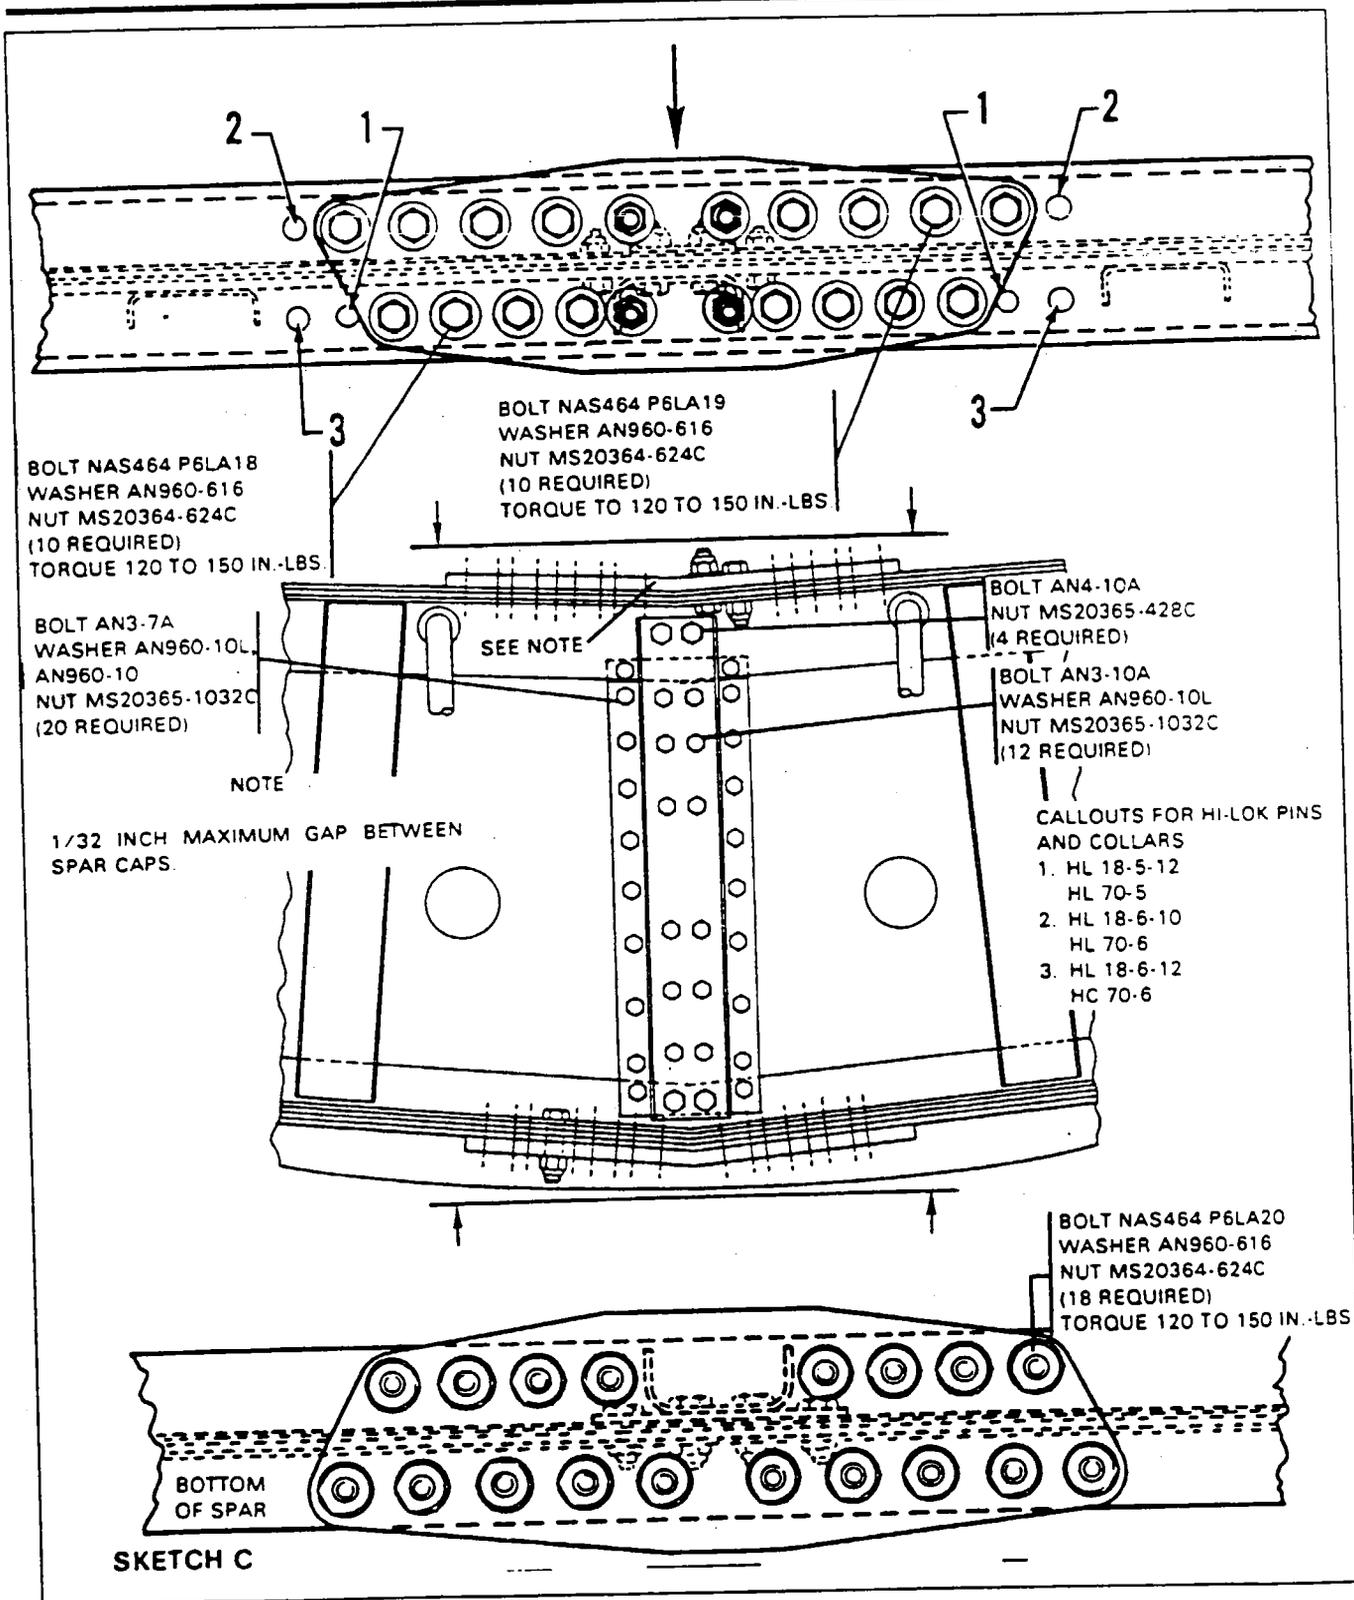

Figure 57-1. Wing Installation (cont.)
#### **REMOVAL OF WING. (Refer to Figure 57-1.)**
**INSTALLATION OF WING.** (Refer to Figure 57-1.)
12. Tighten bolts of all attachment fittings, plates, etc. (Refer to Figure 57-1.)